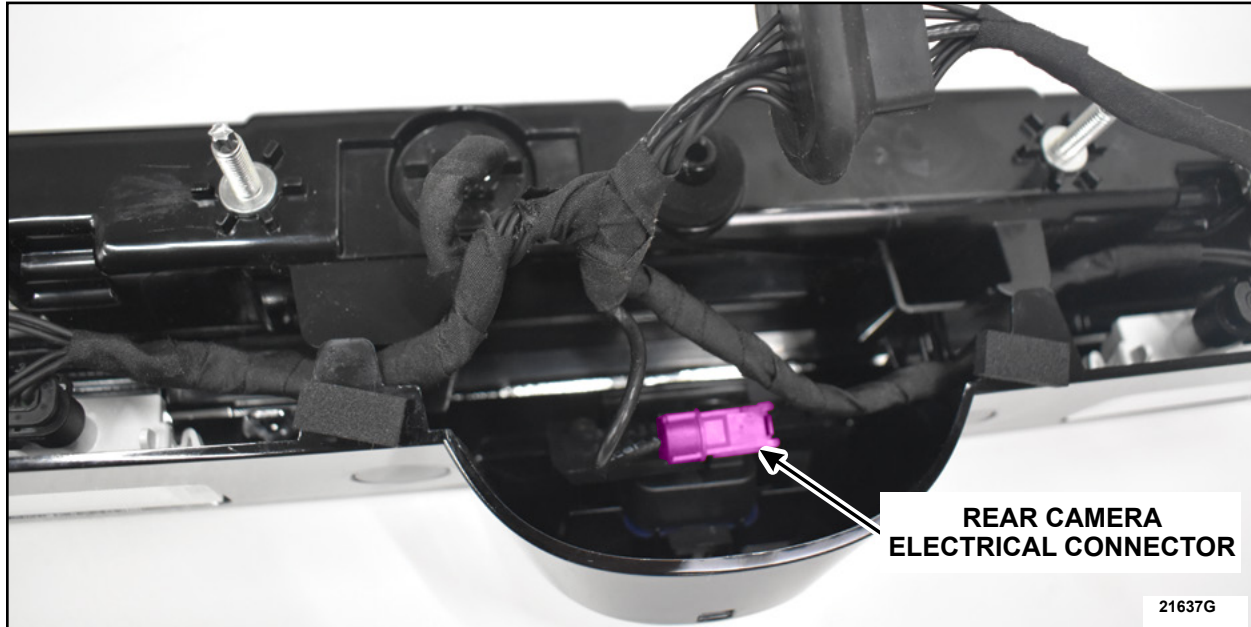

FIGURE 1
2. Disconnect the rear view camera electrical connector. See Figure 1.